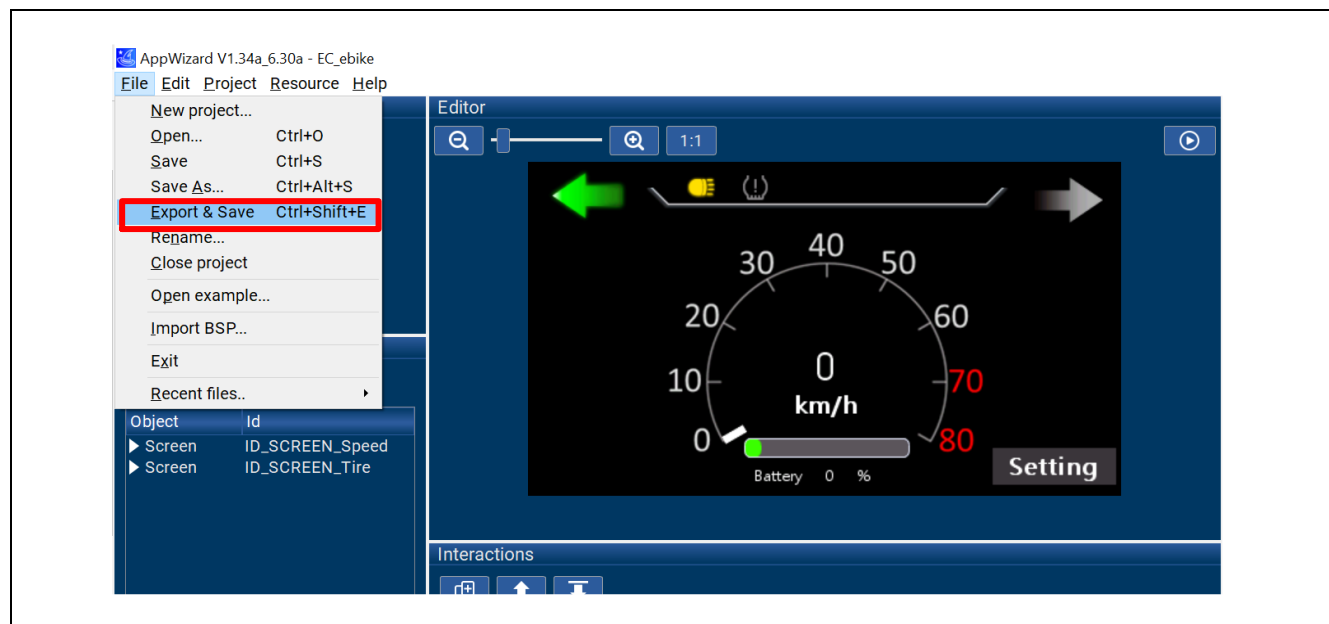

Figure 1-67 Export Code
1. Once the design is completed, you can export the code through “**File -> Export & Save**”, as shown in Figure 1-67. The project file used in this example is named as *EC_ebike.zip*. You can refer to Figure 4-1 for the file path. After extracting the file, you can directly open the project file using AppWizard.